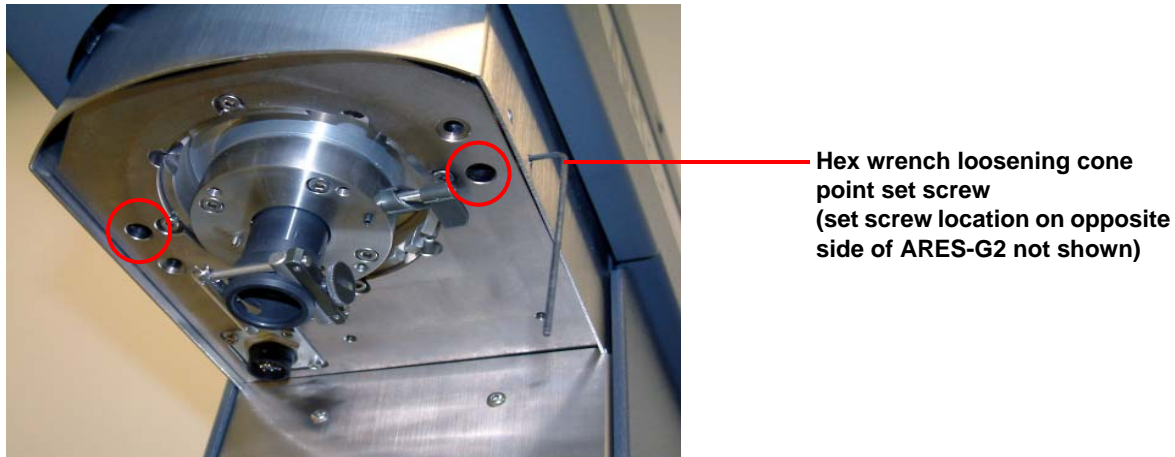

Figure 5 UV shield mounting post and set screw locations on underside of ARES-G2 stage.
- a Locate the mounting post holes circled in Figure 5 below.